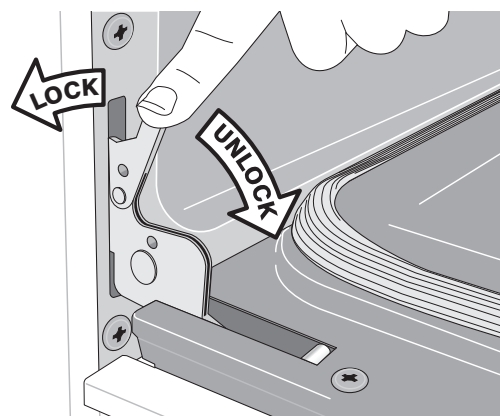

Figure 8: Unlocking and locking door hinges
2. Pull up the lock located on each hinge support toward front of the oven until the lock stops. You may have to apply a little upward pressure on the lock to pull it up (Figure 8).
4. Push the door hinge locks up toward and into the oven frame on both left and right oven door hinges to the locked position (Figure 8).